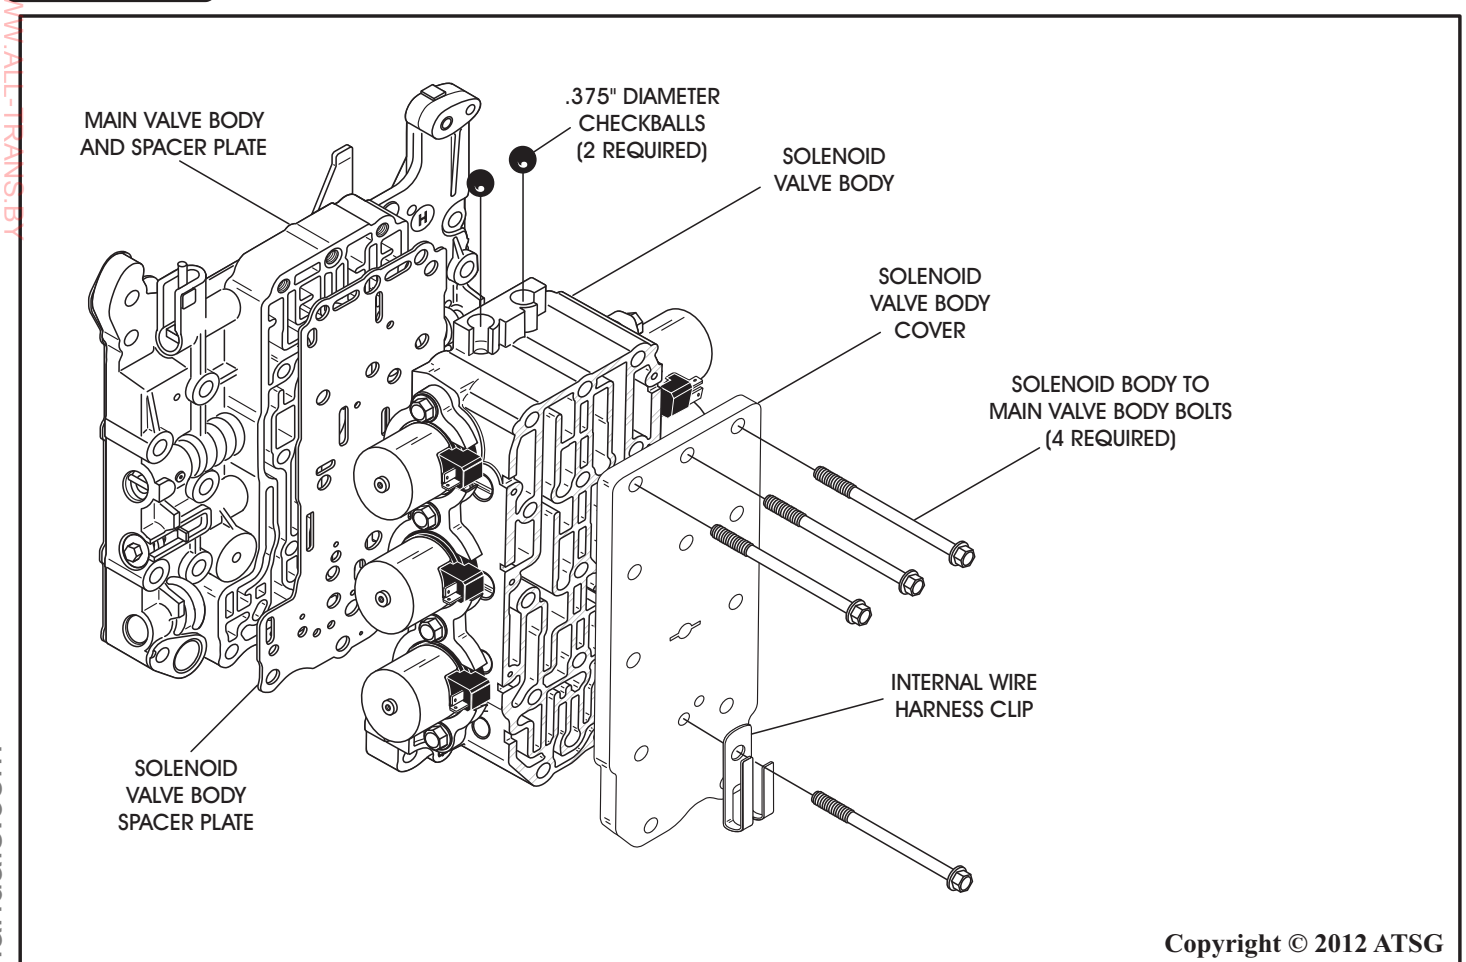

Figure 220
32. Install the solenoid body spacer plate, solenoid body and the solenoid body cover, as shown in Figure 220.
33. Install the four solenoid body to main valve body bolts in locations shown in Figure 220.